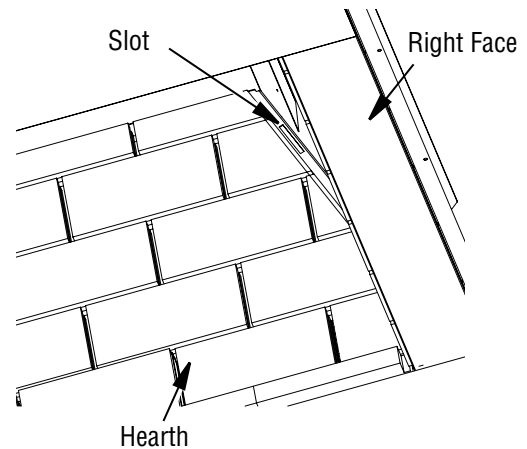

Figure 32 - Slots for Firebrick Walls
3. Install the left and right firebrick walls. There is a bracket with 2 tabs on the bottom of each firebrick wall. Angle the wall into the fireplace opening and into the slots on the side of the hearth (Figure 32), then tilt the top of the panel toward the firebox surround.